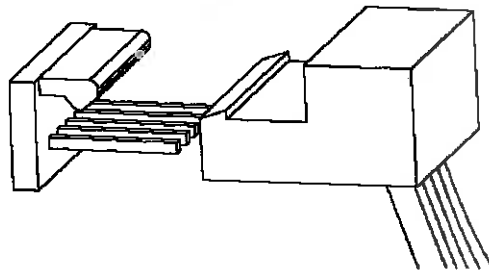

Fig. 5
17. The new circuit will have a wire harness/potentiometer already connected. Should you need to reconnect it for any reason, be aware that the clip has a polarity that is important to observe. The correct connection orientation is shown in Fig. 5 below. Each circuit is supplied with its own wire harness - the wire harness must only be used with the circuit it is supplied with.